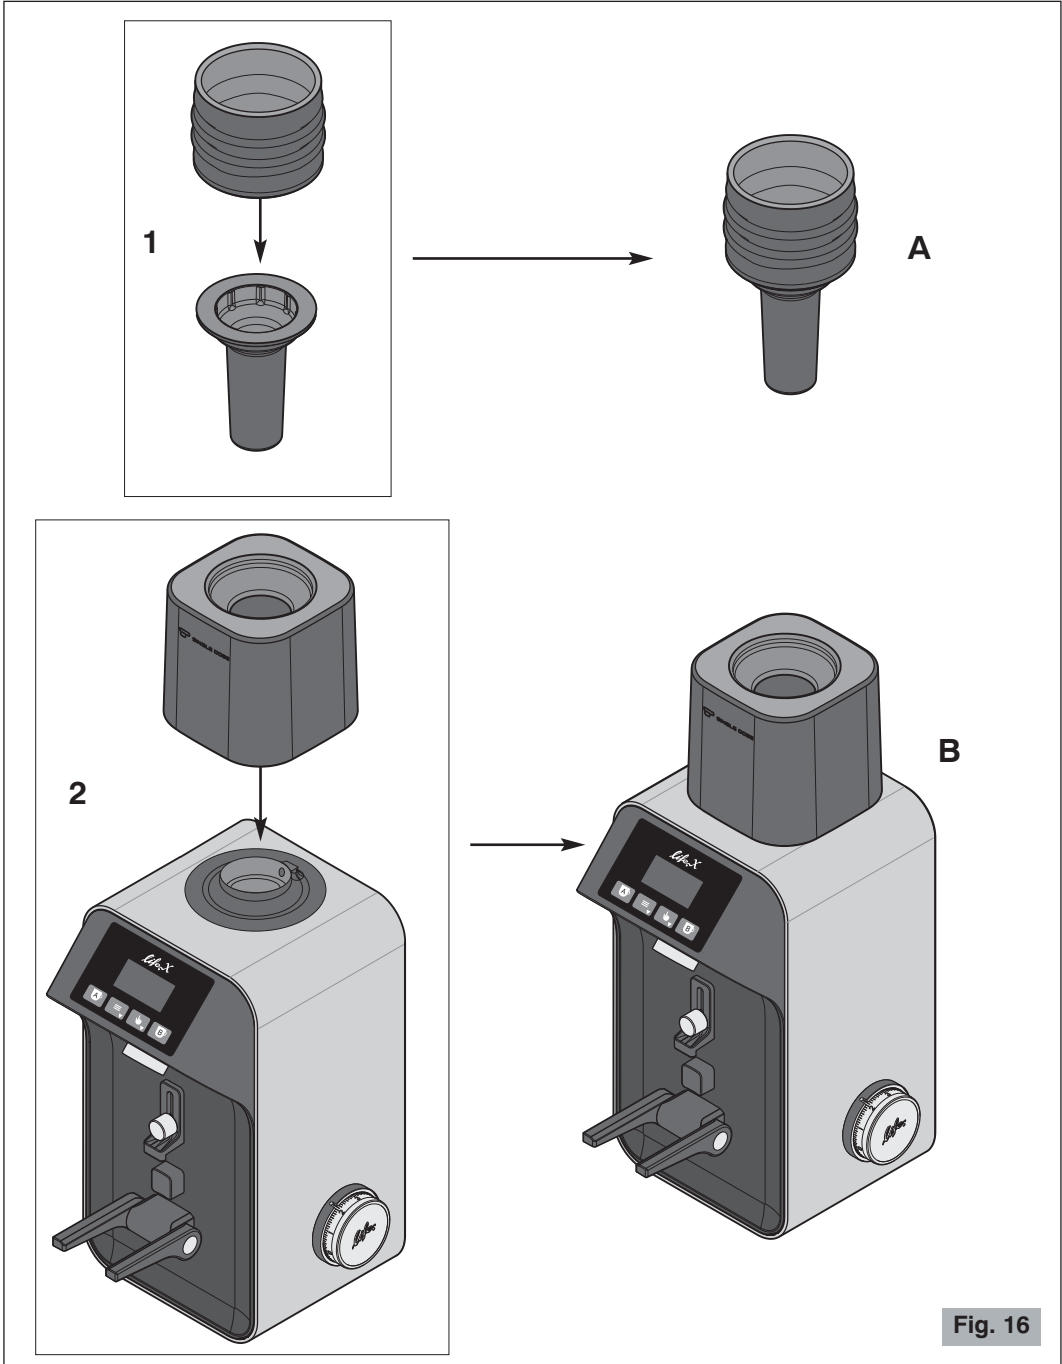

Fig. 16
- Insert the bellows into the pusher (point 1 of Fig. 16).
- Place the kit support in its seat (point 2 of Fig. 16).
- 4 Insert the bellows-pusher assembly (A Fig. 16) into the opening of the support, letting it rest on the coffee beans (Fig. 16a).
-  **Never** operate without the hopper fixed by the appropriate screw (6a, Detail A Fig. 3) or without having positioned the support of the single dosing kit (point 2 Fig. 16).